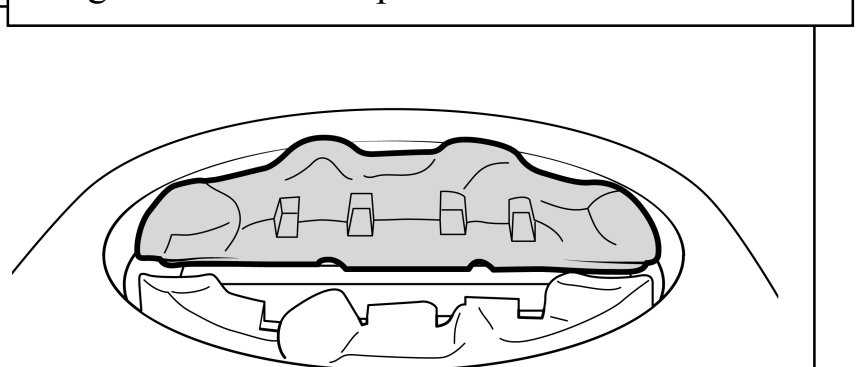

Figure 6 Rear base pebble location
2. The rear base pebble has a letter 'MB' on the underside. Locate the rear base pebble behind the burner (See figure 6)